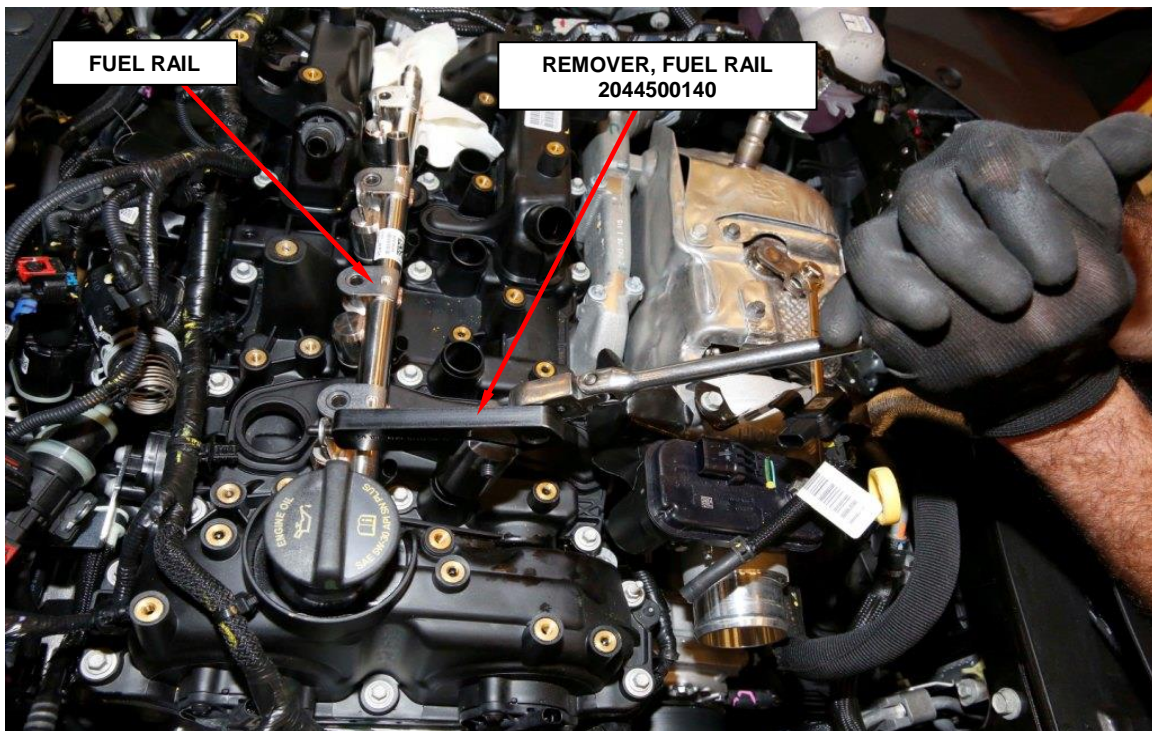

Figure 13 – Fuel Rail Removal
38. Using the fuel rail remover tool Remover, Fuel Rail 2044500140 remove the fuel rail and injectors and set aside in a clean environment (Figure 13).